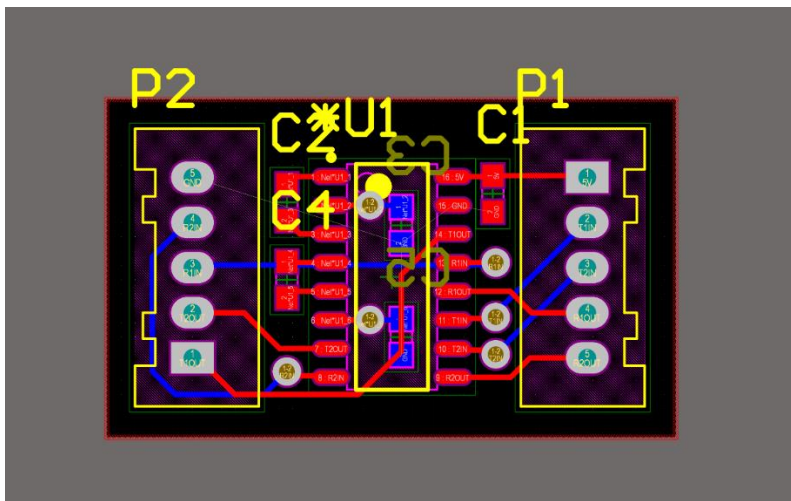

Figure 5: Successfully Defined Board Outline
5. You should now see something similar to Figure 5.